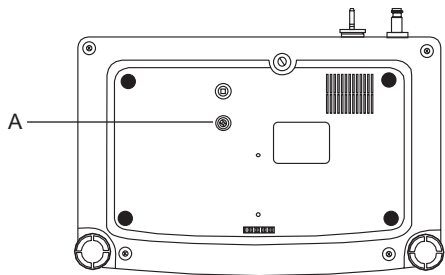

Fig. 12
- 1 With the device switched on and in a perfectly horizontal working position, press the relief valve of the air filter (Fig.12 - Ref.A) at the bottom of the device until there is only air coming out.